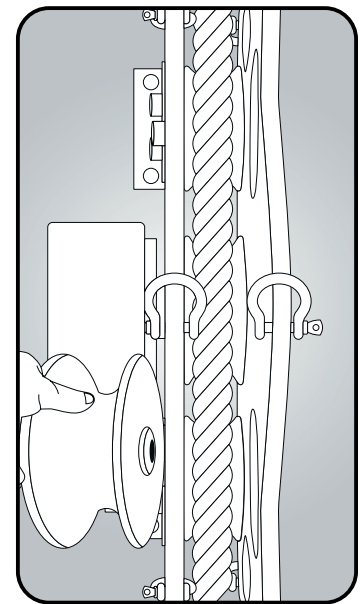

Figure 9C
2. Lay the pulling rope across the three lower rollers, making sure the rope is sitting completely in the grooves of the rollers (See Figure 9C)